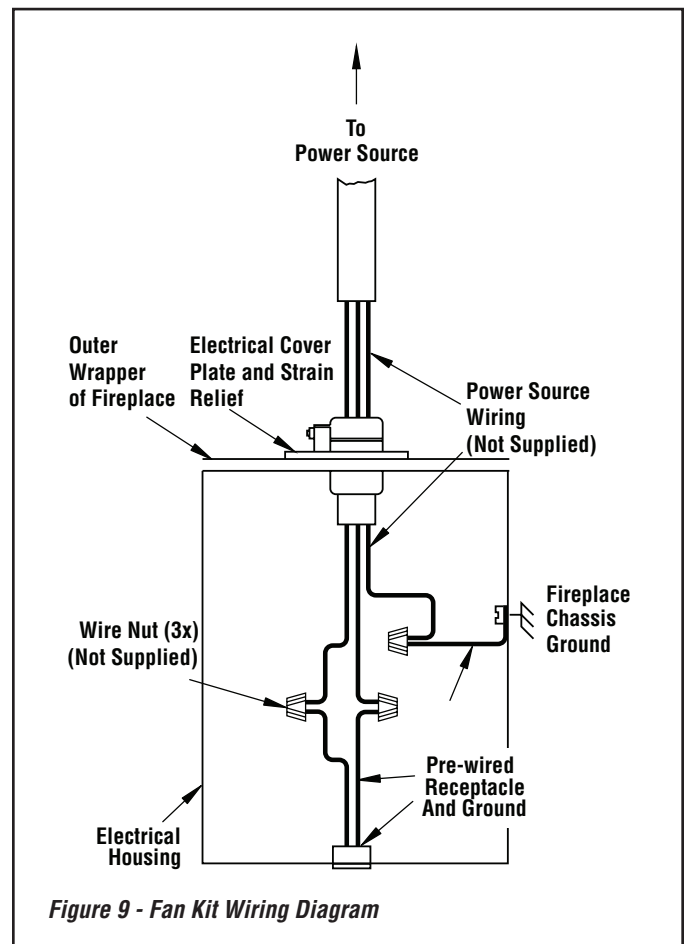

Figure 9 - Fan Kit Wiring Diagram
4. Place all wiring connections into electric housing as shown in *Figure 9*.